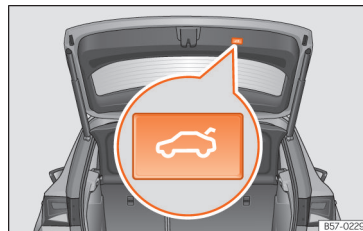

Fig. 9 Rear lid: button to close rear lid.
- Closing the rear lid: hold one of the handles on the inner trim and close it by sliding down, or press the button on the rear lid* »» Fig. 9.